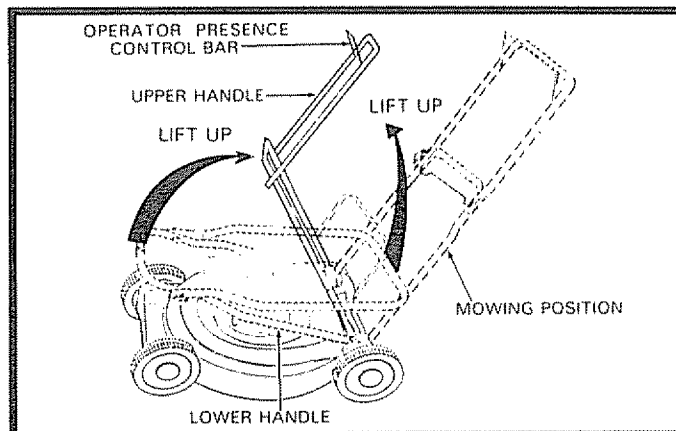

FIG. 1
- Raise handles until lower handle section locks into place in mowing position (See Fig. 1).
- Raise upper handle section into place on lower handle and tighten one (1) handle knob.